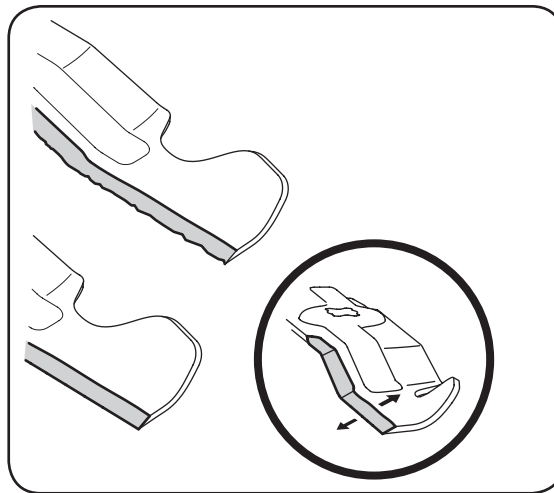

Figure 6-8
4. To properly sharpen the cutting blades, remove equal amounts of metal from both ends of the blades along the cutting edges, parallel to the trailing edge, at a 25° to 30° angle. See Figure 6-8.